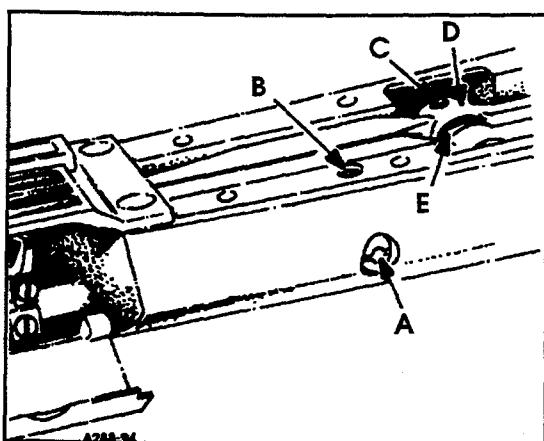
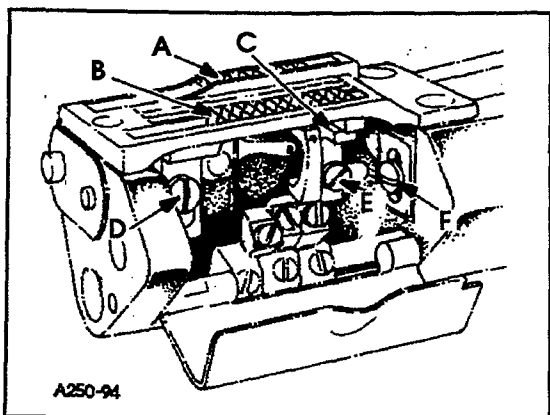

FIG. 10
FIG. 11
Before assembling the main and differential feed dogs, set the feed bar eccentric pin (A, Fig. 10) located in the left side near center of cylinder, so that the slot in the head is in a horizontal position. This assures a neutral position of eccentricity for the purpose of raising or lowering the height of the main and differential feed bars simultaneously. The feed bar pin is retained in position by set screw (B). Assemble differential feed dog (A, Fig. 11), main feed dog (B) and throat plate. Both the main and differential feed dogs can be individually adjusted to height. Main feed dog (B) at its highest position, should be set to project above the throat plate, slightly more than the depth of its teeth on Style 35800DLW and slightly more than the depth of its lower teeth on Styles 35800DWW, DWWL. If adjustment is necessary loosen screw (D) and move feed dog (B) up or down to attain correct setting. Feed dog support (C) should support front of feed dog. If adjustment is necessary loosen screw (E) in feed dog support (C) and move as required. Retighten screw (E). The differential feed dog (A) may then be leveled with main feed dog (B). If adjustment is necessary loosen screw (F) and move feed dog up or down as required. Retighten screw (F).
NOTE: Should the main feed dog require repositioning due to contact with the throat plate in its forward or rearward travel, loosen set screw (C, Fig. 10) in main feed bar driving link (D), rotate main feed bar eccentric driving stud (E) as required. Driving stud (E) has a thin hexagon head with cutouts on two of the flats allowing movement by tapping with a sharp pointed tool, when wrench 21388AZ is not available. Whenever the main feed bar eccentric driving stud position has been changed, recheck rear needle guard setting, adjustment may be required. Retighten set screw (C). Position main feed dog support (C, Fig. 11) flush against bottom of main feed dog (B), tighten support screw (D) securely.